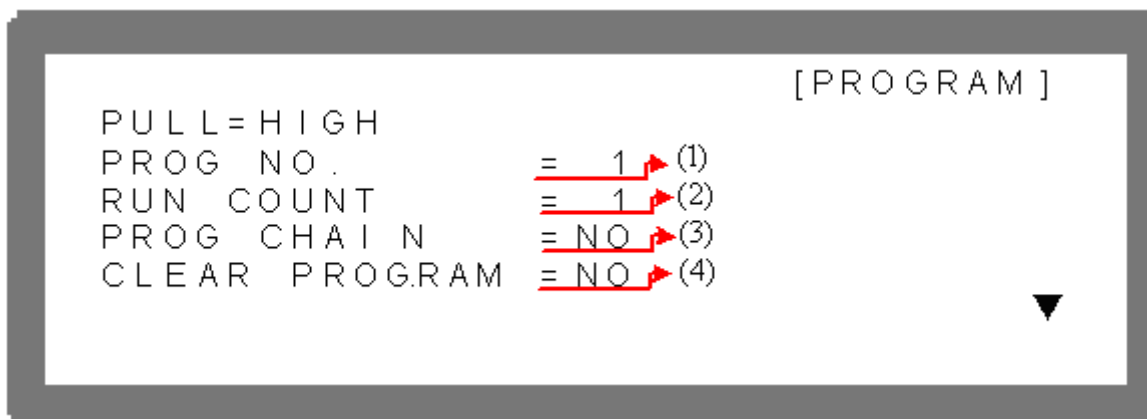
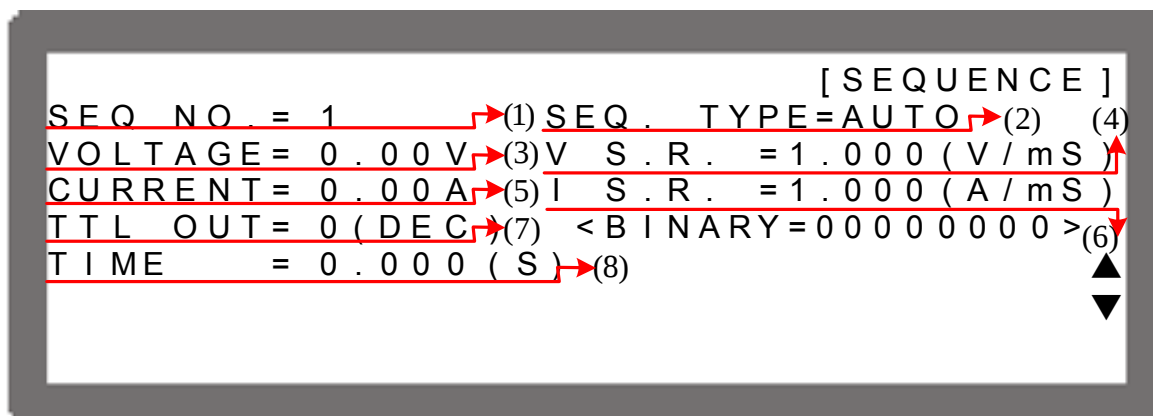

Figure 4-3
Figure 4-8
2. Use “”, “” keys to move the cursor to the column to be set as Figure 4-3 (1) shows.
1. Use “”, “” keys to move the cursor to the column to be set as Figure 4-3 (2) shows.
1. Use "", " keys to move the cursor to the column to be set as Figure 4-3 (3) shows.
1. Use "←↑", "→↓" keys to move the cursor to the column to be set as Figure 4-3 (4) shows.
- a. In PROGRAM page (Figure 4-3), if the PROGRAM has no SEQUENCE when the cursor is at (4), press "→↓" can add a new SEQUENCE. The page will skip to Figure 4-8.
- b. When the cursor is at (8) in Figure 4-8 as the SEQUENCE of a PROGRAM, press "→↓" can add a new SEQUENCE.
3. Use "←↑", "→↓" keys to move the cursor to the column to be set as Figure 4-8 shows.
6. Press "EXIT" to return to Program PAGE (Figure 4-3).
1. Use “”, “” keys to move the cursor to the column to be set as Figure 4-8 (1) shows.
2. When the cursor is in Figure 4-8 (8), press “” can add a new SEQUENCE. Also it can use the numeric (~) keys or “Rotary” () knob to set the value and return to the previous set Sequence Number.
4. Press “” to return to Program PAGE (Figure 4-3).
1. Use “”, “” keys to move the cursor to the column to be set as Figure 4-8 (2) shows.
2. Use the numeric (~) keys or “Rotary” () knob to set the Sequence Type. There are four Sequence Types, which are: (1) AUTO, (2) MANUAL, (3) TRIGGER, (4) SKIP.
1. Use "←↑", "→↓" keys to move the cursor to the column to be set as Figure 4-8 (3) shows.
1. Use ", " keys to move the cursor to the column to be set as Figure 4-8 (5) shows.